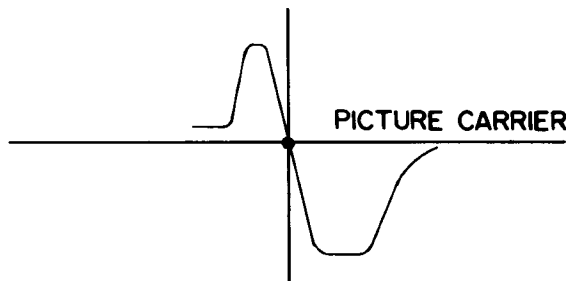

Figure 3 (AFT Alignment Waveform)
- 3) Adjust L103 so that AFT adjustment waveform may be as shown in figure 3.